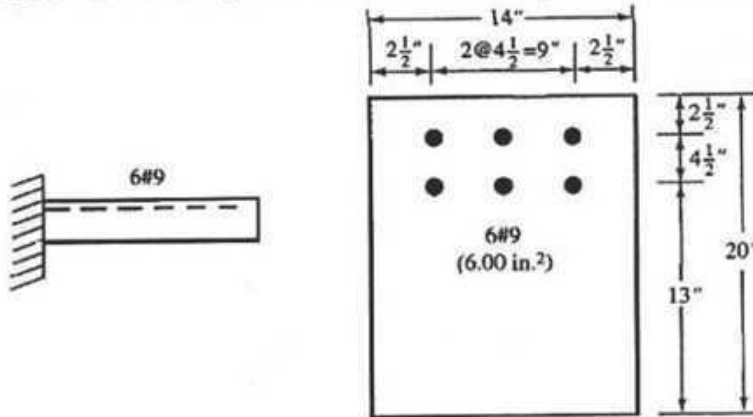

Fig 8
b) Define development length. Explain the relationship of (i) location of reinforcement (ii) Coating of bars and (iii) size of reinforcing with development length by means of the factors  $\Psi_t$ ,  $\Psi_c$  and  $\Psi_s$ . (5)
7. Determine the development or embedment length required for the epoxy-coated bars of the normal weight concrete beam shown in Fig 8. Given,  $f_c = 4000$  psi,  $f_y = 60000$  psi.
- If the bars are straight, assuming  $K_{tr} = 0$ . (2)
- If a  $90^\circ$  hook is used. (show the hook dimensions beyond critical section) (4)
- If a  $180^\circ$  hook is used. (show the hook dimensions beyond critical section) (4)